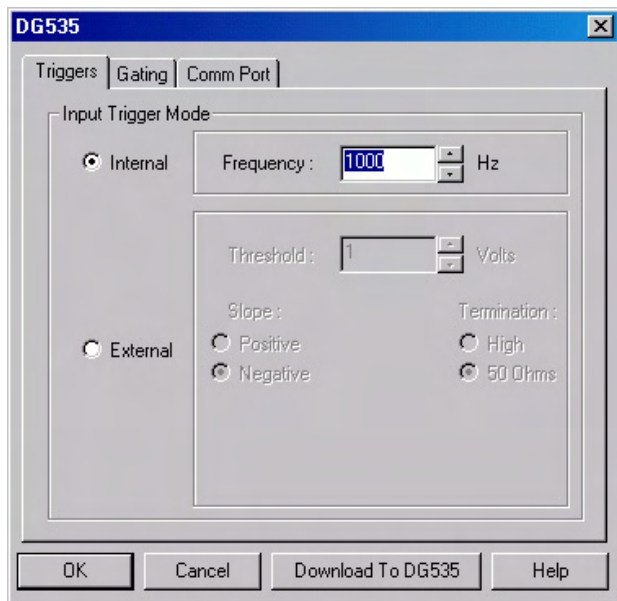

Figure 184. DG535 Triggers tab page
8. Click on the **Triggers** tab (Figure 184).